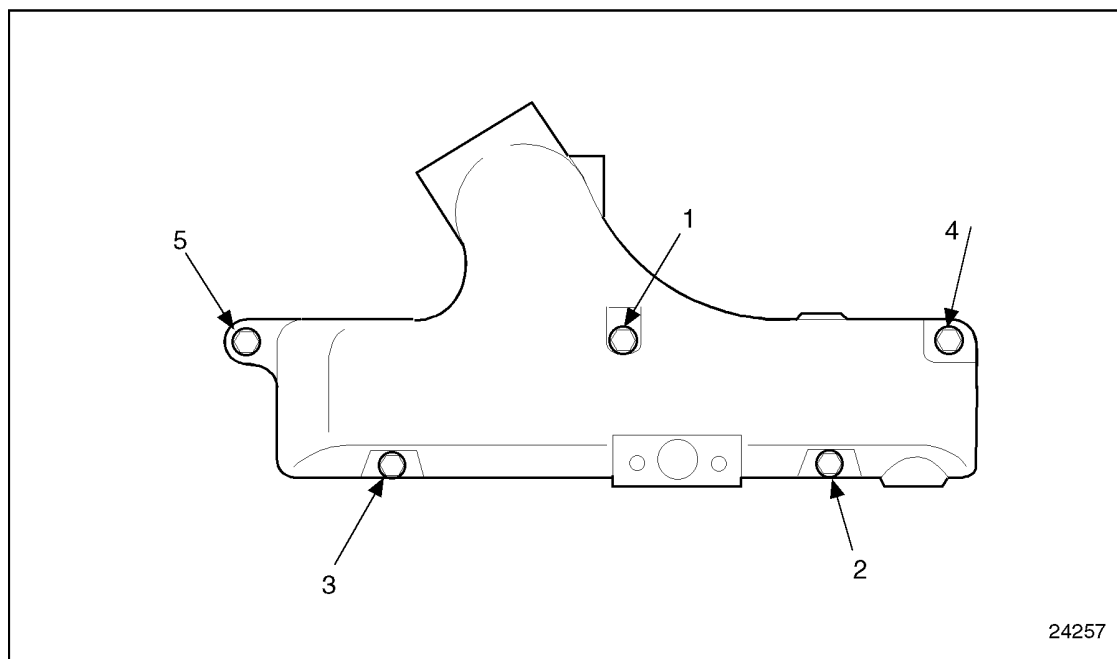

Figure 6-9 Intake Manifold Bolt Position and Torque Sequence
2. Install bolts four and five through the intake manifold and into the cylinder head and hand tighten. See Figure 6-9.
3. Install the three remaining bolts through the intake manifold and into the cylinder head. Torque all of the intake manifold retaining bolts to 58-73 N·m (43-54 lb·ft) in the proper tightening sequence. See Figure 6-9.